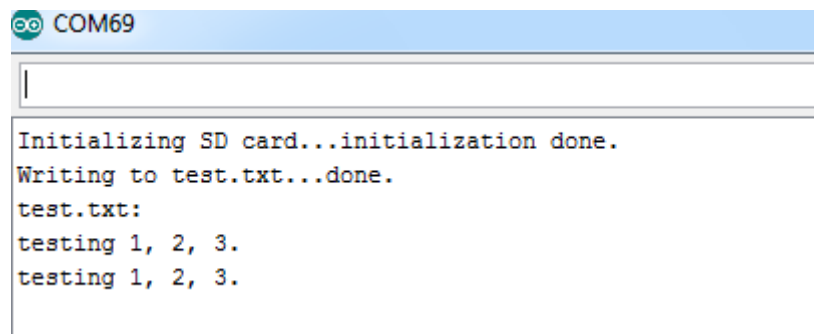

Figure 19
13. After clicked icon is “Serial Monitor” then will be shown “window of serial monitor” as figure 19. is completely wrote “**test.txt file**” into SD card.